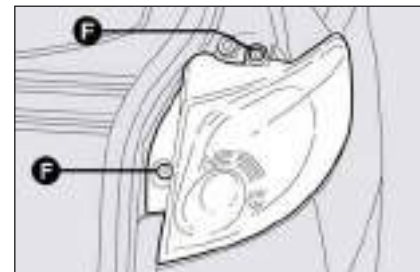

fig. 32
- loosen the two screws **F**-fig. 32 and remove the light unit;